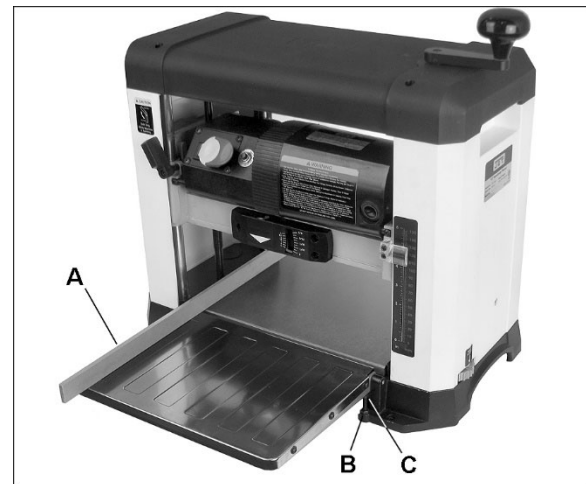

Figure 8-2: leveling tables
2. Place a straight edge (A, Figure 8-2) across main table and infeed table at left side of machine. A steel bar is ideal, but a carefully jointed board may also be used. A straight edge that reaches across both infeed and outfeed tables is preferable.
3. If the straight edge does not sit flush on the tables, loosen nut (B) and turn stop screw (C) at that side of table, as needed. Tighten nut (B) to secure setting.